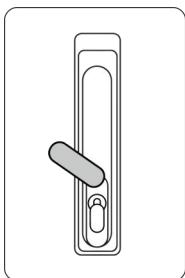

Figure.2
2. Move upward the cover above the keyhole.See the Figure.2